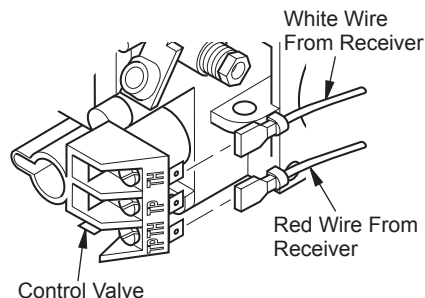

Figure 23 - Connecting Wires
9. Connect wires to control valve at the TPTH and TH locations as shown in Figure 23. *Note:* Make sure excess wire does not interfere with burner or pilot.